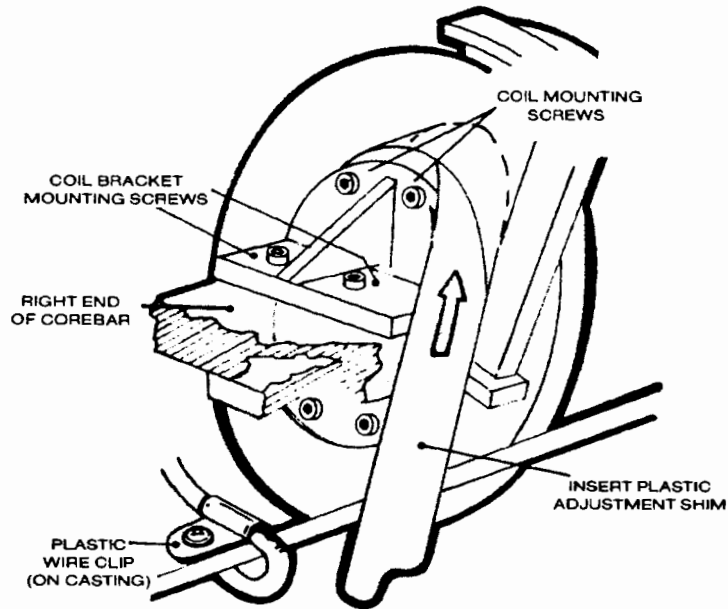

Figure 5-4 Linear Motor Coil Adjustment
- a. Switch the printer OFFLINE, and the ON/OFF switch to the OFF (0) position.
- d. Slightly loosen the four 3mm allen screws mounting the coil to the machined aluminum bracket (see Figure 5-4). Loosen just enough to allow for adjustment.